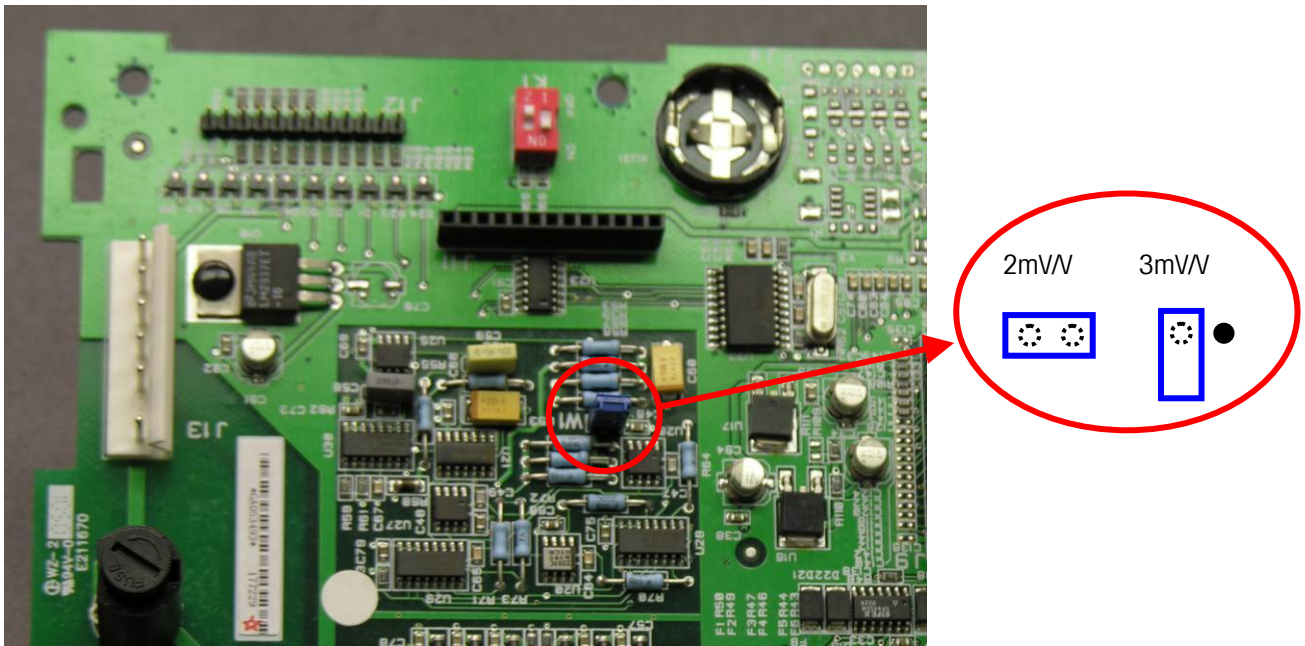

Figure 2-34: Millivolt Jumper Selection
The IDNet version of the IND560 main board has no jumpers. There is one jumper on the IND560 analog scale main board (W1). This jumper selects either 2 mV/V or 3 mV/V operation of the analog circuitry. Refer to Figure 2-34 for the jumper position.
- When removing the W1 jumper for 3mV/V operation, reposition it on just one of the pins as shown in Figure 2-34. If this jumper is not positioned properly, the plastic cover over the Main board will not fit properly. If this occurs, do not force the plastic cover down. Remove the cover and position the jumper as shown.